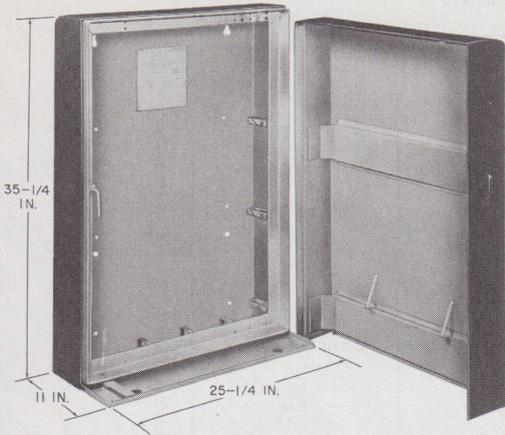

Fig. 11—18-Plate Equipment Cabinet Per ED-91180-70
2.12 The 18-plate equipment cabinet per ED-91180-70* (Fig. 11) is a metal cabinet with a lift-off cover and hinged gate structure. It is drilled for wall or floor mounting.